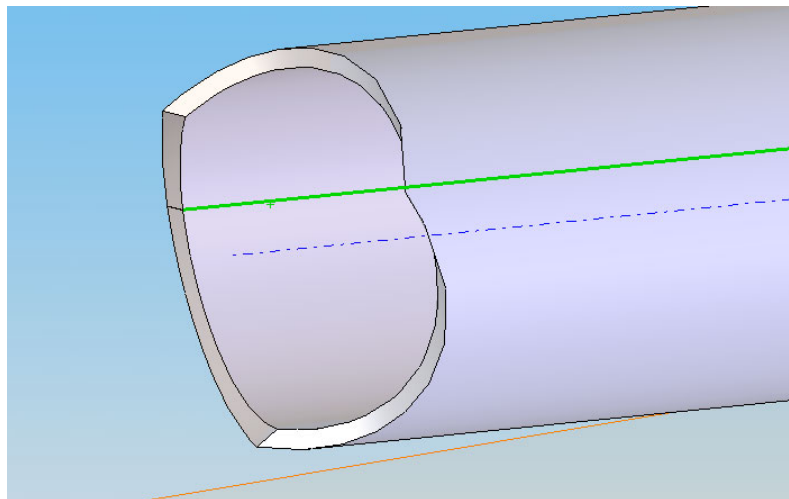

Figure 4.
4. Now to unwrap the tube. Go to *Insert*→*Sheet Metal*→*Bends* and select the edge of the slit just created from the inside of the tube as shown in figure 4. It is important to use the inside edge as the outside will lead to tubes that are too long as you are not accounting for the wall thickness. Under *Bend Radius* enter the OD of your tube, and under *Bend Allowance* use *K-Factor* set to 1.